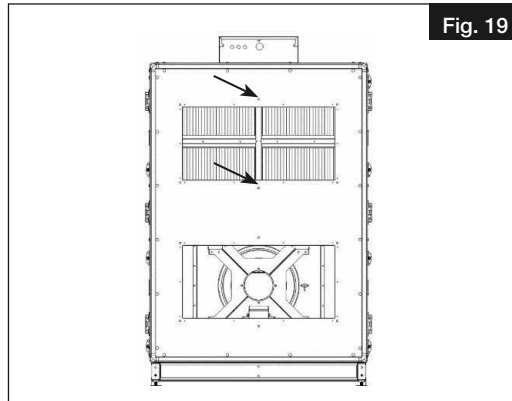

Fig. 19
- After tightening the screws, the accessory must also be fastened using the mounting brackets (see Fig. 19) for unit types AIR1 RH 5000-15000.